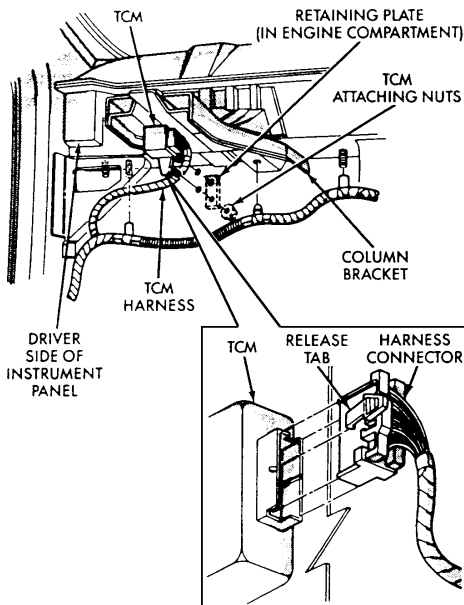

Fig. 1 - TCM Location & Mounting
The TCM is located on the driver's side of the dash, adjacent to the steering column. The module and harness connector are accessible from under the instrument panel. (Fig. 1)
The module has integral mounting studs for attachment to the dash panel. A retaining plate and two locknuts secure the module to the dash (Fig. 1). Although the module is inside the vehicle, the retaining plate and locknuts are on the engine compartment side of the dash panel.
4. Lift release tab on harness connector (Fig. 1). Pull connector out of the module and remove module from vehicle.